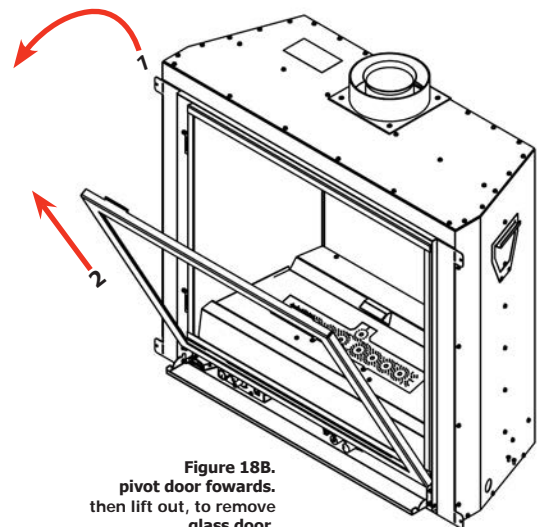

Figure 18B. pivot door forwards. then lift out, to remove glass door.
Step 3. Once released, pivot the door forward and pull it out of the bottom door retainers. The door must be angled in order for it to pull out. Fig.18B